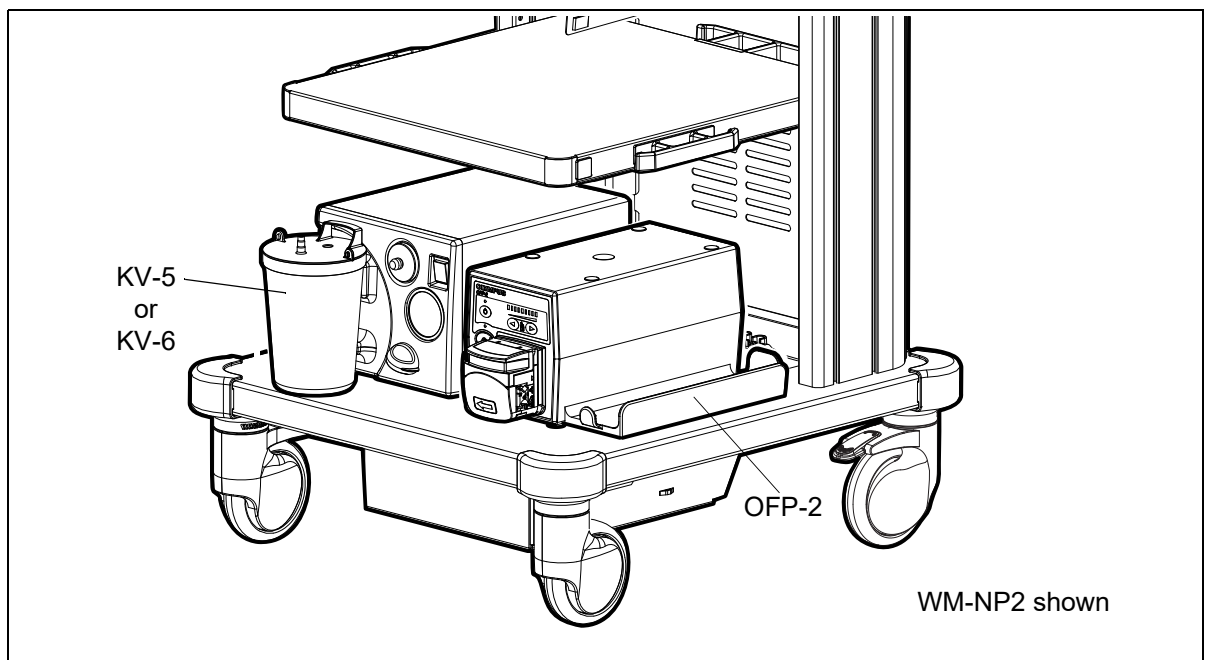

Figure 3.1
3. Referring to Figure 3.1, place the OFP-2 on the base shelf of the mobile workstation to the right hand side, allowing room for a suction pump to be placed on the left.